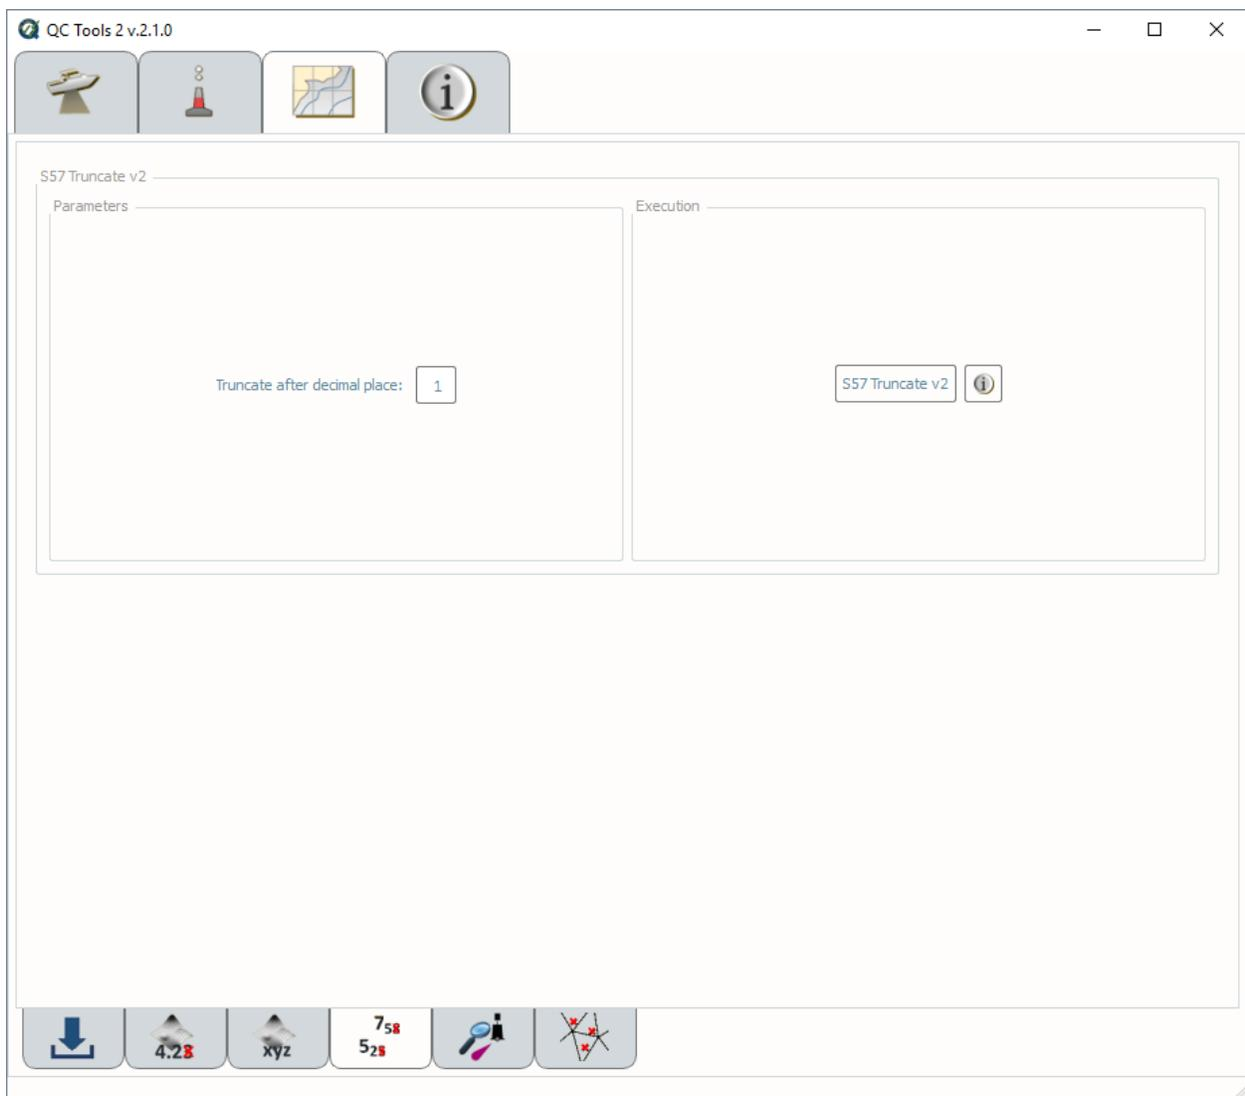

Fig. 2.44: S57 Truncate.
- In **Execution** (Fig. 2.44), click **S57 Truncate v2**.